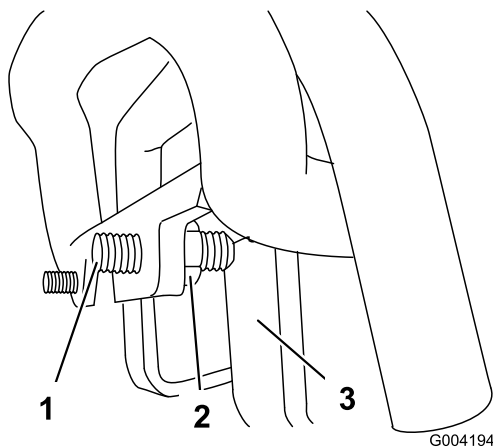

Figure 57
3. If the machine veers to the **left**, loosen the **right** jam nut and adjust the tracking set screw on the front of the traction control (Figure 57).
- If the machine veers to the **right**, loosen the **left** jam nut and adjust the tracking set screw on the front of the traction control (Figure 57).